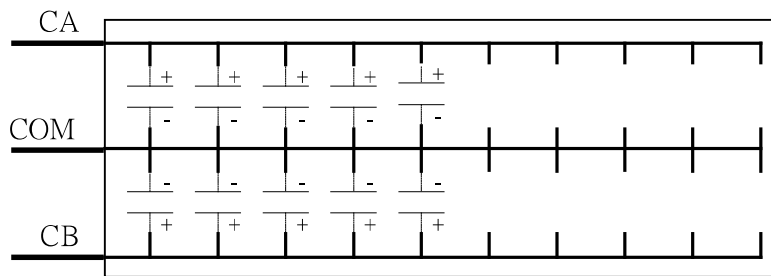

Figure 5-8 Connection Illustration of 10pcs Parallel Fixtures
1. The connected capacitor quantity under test needs to be even numbers, the min. is 2pcs and the max. is 20pcs. Its polarity connection is as Figure 5-8 shown.